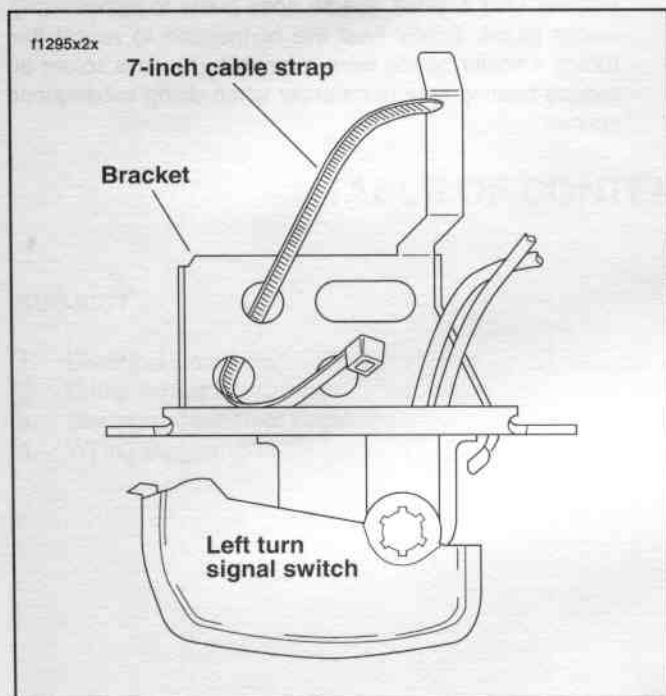

Figure 8-74. Insert Cable Strap in Switch Bracket
1. See Figure 8-74. Insert tapered end of **new** 7 inch cable strap into round hole in turn signal switch bracket and then feed back through using the adjacent hole. Reserve the oblong hole for the bracket screw.